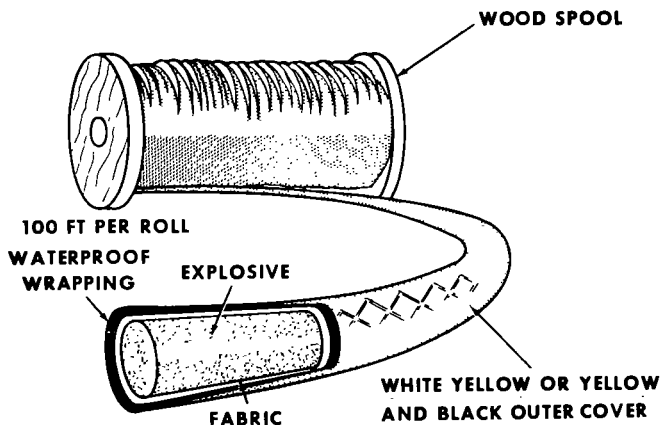

Figure 104. Detonating cord.
e. Detonating Cord. Detonating cord (fig. 104) consists of an explosive core of PETN covered with either white plastic, or yellow and black waterproof covering. It is detonated by the special blasting cap, electric or nonelectric. Its main use is to prime charges and simultaneously explode a number of separate charges. Detonating cord is particularly useful for priming explosives placed below the ground, or underwater. The following safety measures should be observed in handling and using detonating cord:
- (1) Avoid kinks and sharp bends.
- (2) Exercise special handling care in cold weather to avoid breaking the covering or the explosive train.
- (3) Lay out detonating cord lines as straight as possible but do not stretch taut. Detonating cord tends to form a spiral as it is unwound from its spool. To avoid misfire it must be carefully straightened before firing.
- (4) Do not remove any part of the fabric covering.
- (5) Apply a sealing compound to the end of the cord when using in underwater charges, or in charges that are to be left in place for several hours before firing.